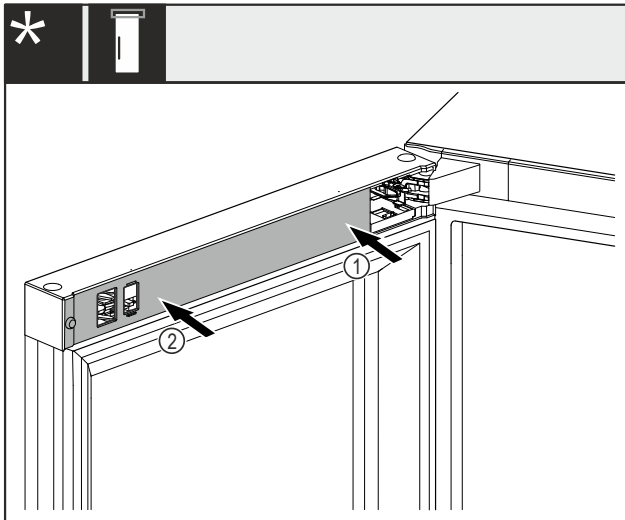

Fig. 48 \*
- ▶ Place the cover Fig. 48 (1) on the bearing bracket side first and snap into place.\*
- ▶ Fit the cover Fig. 48 (2) on the outside and snap into place.\*